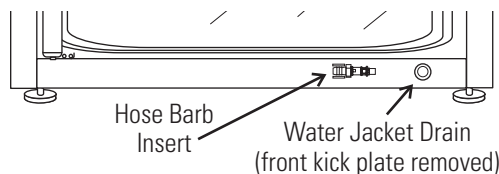

Figure 5-10. Water Jacket Drain and Hose Barb Insert
- After water jacket has finished draining, remove the hose barb insert and secure on the front of the unit. See Figures 5-10 and 5-11.